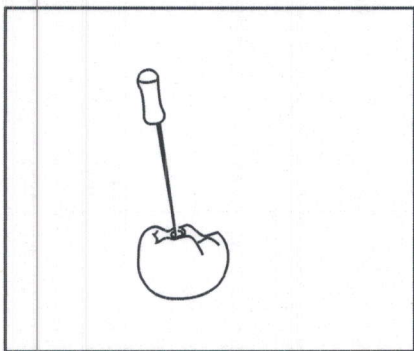

Fig.10
5) Insert the file into the canal.(Fig.10)